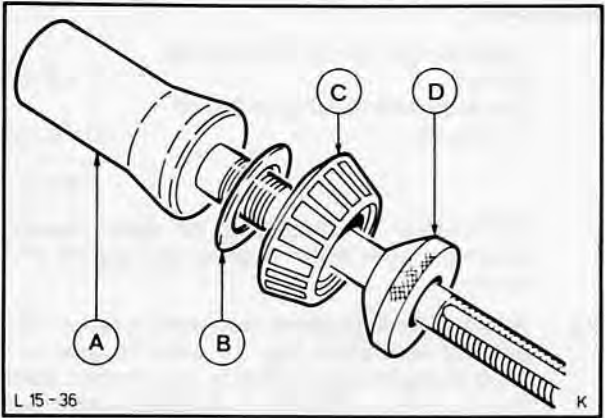

Fig. 79. Master pinion 15-020
29. Remove master pinion and gauge bar. Detach taper roller bearing and chosen shim from master pinion, Fig. 79.